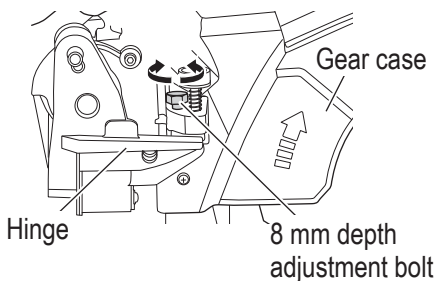

Fig. 16
To adjust the lower limit position of the saw blade, follow the procedure (1) indicated below. (Fig. 16)
- (1) Turn the 8 mm depth adjustment bolt, change the height where the bolt head and the hinge contacts, and adjust the lower limit position of the saw blade.